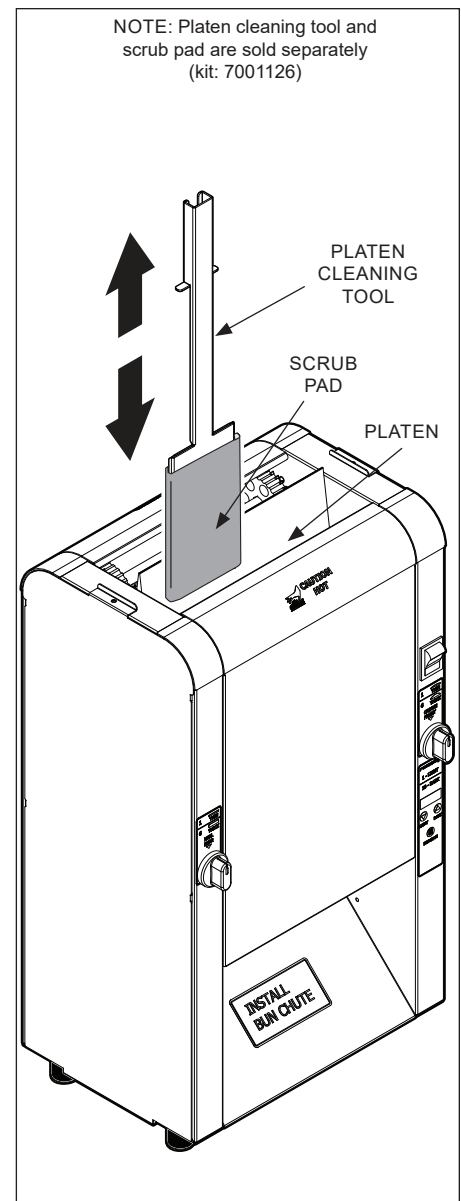

Figure 12. Using Platen Cleaning Tool
10. Scrub each side of toasting platen gently with scrub pad, applying additional Sizzle to scrub pad as needed (Figure 12)